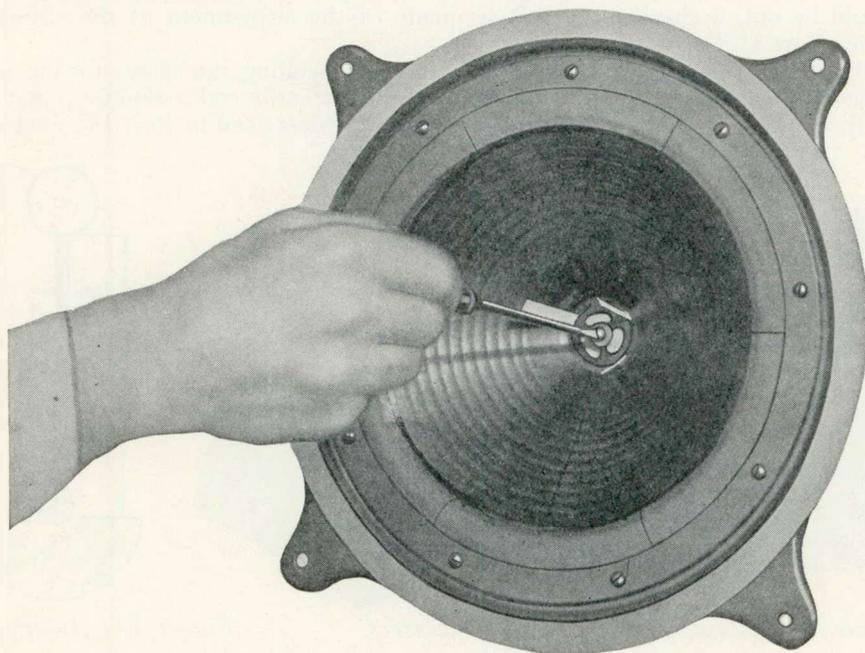

Figure 18—Centering cone
- (c) Insert three cardboard strips about the thickness of a visiting card, $1\frac{1}{2}'' \times \frac{1}{4}''$ in size, through the center web of the cone into the space between the pole pieces and the cone (Figure 18). This will give the cone coil the same clearance on all sides of the pole piece.